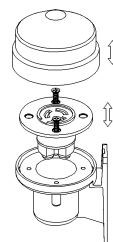

Figure 1
- Using the correct screwdriver, unscrew the two silver screws within the unit to release the 2nd part of the fitting (see figure 1)